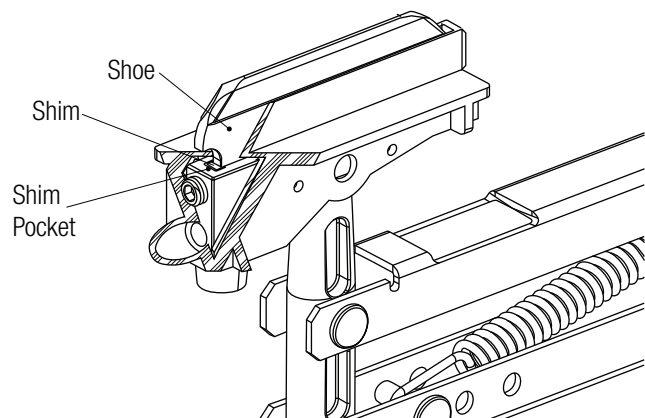

Figure: 23-2
- Replace shoe with new shoe. Place shim in pocket between setscrew and shoe, and install new shoe into collector head. See **Figure: 23-2**.